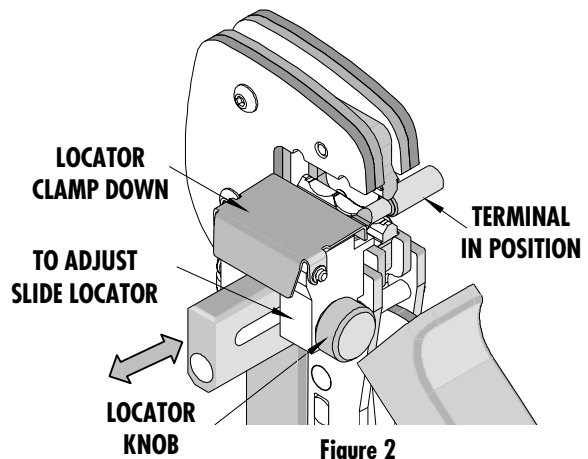

Figure 2
2. Loosen the locator knob and slide as required until the conductor barrel is centered over the crimp pocket in the lower jaw as shown in Figure 2. Tighten the locator knob to lock the locator assembly in position.